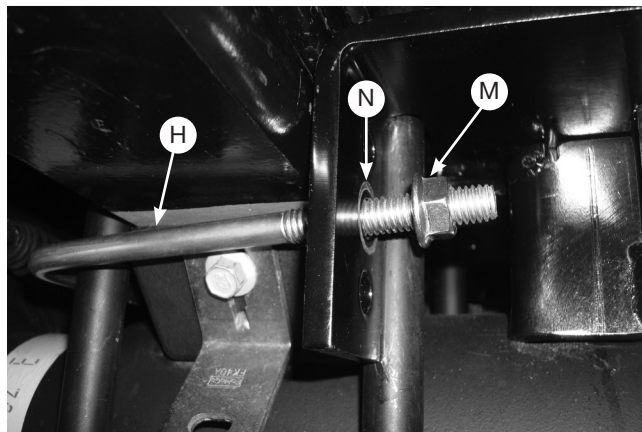

Fig. 17
3. Install the U-bolts (H) around the stock U-bolt/leaf spring assembly and insert through the topmost holes in the lower bracket main plates (Fig. 17). Cap with the 3/8" serrated flange lock nut (Q). Snug bolts evenly, just enough to hold the lower bracket main plate flush against the stock U-bolts.